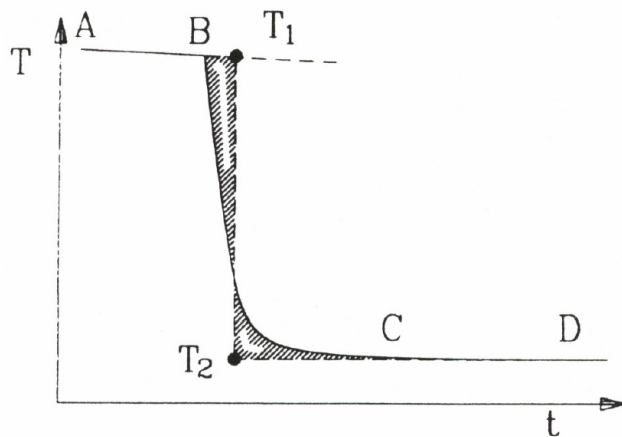

FIG. 6: Temperature evolution in the calorimeter during melting of ice.
- Determine the temperatures T_1 and T_2 and enthalpy of melting H_m (see Figure 6 and text below).
Figure 6 shows the typical temperature evolution during your experiment. The enthalpy (or latent heat) H_m of melting and the heating of the melted water to the surrounding temperature is supplied from the cooling of the calorimeter: